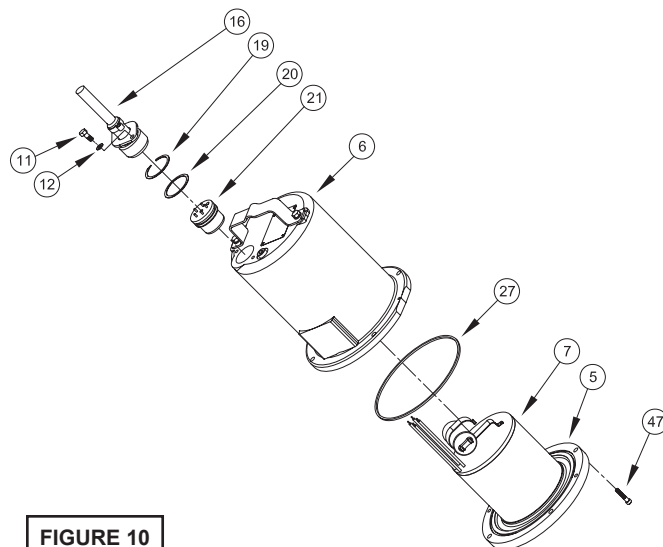

FIGURE 10
underside of the terminal block (21), see Figure 10.